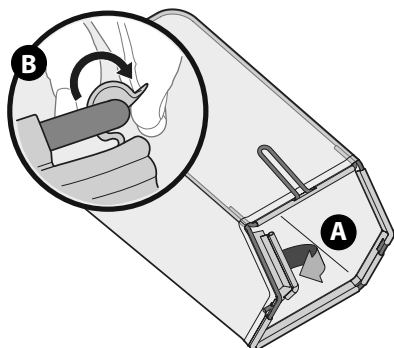

Figure 6
1. Follow steps below to assemble the grass catcher (if needed). Make certain bag is turned right side out before assembling (warning label will be on the outside) (Figure 6).